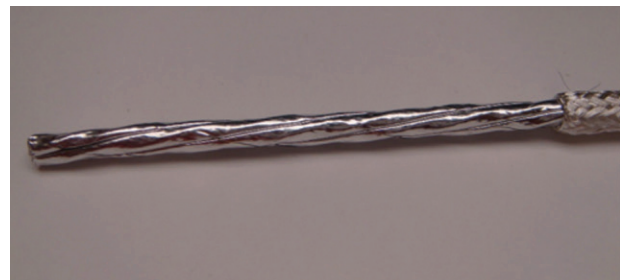

Figure 14: Exposing the foil
6. With your fingers, push the braid back over the cable to expose approximately 3.5 inches of the foil (Figure 14).